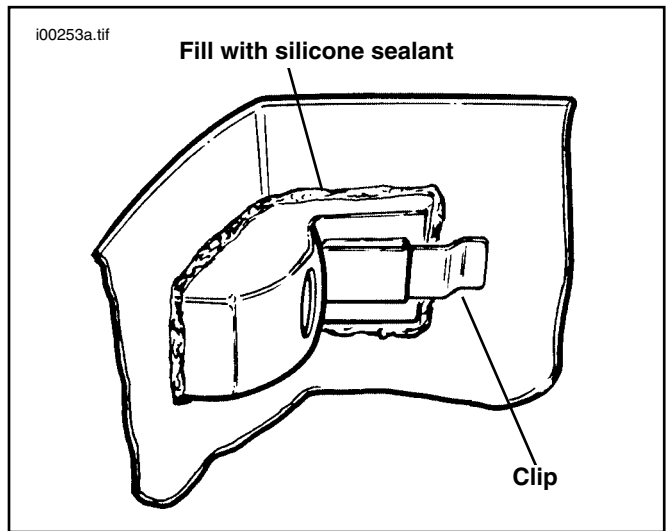

Figure 6. Clip Installation and Sealing Housing
14. See Figure 6. At inside of tour-pak, insert clip into slot in lamp housing with curved portion against side of tour-pak. Push clip or tap with rubber hammer until shoulder of lip is flush with lamp housing.